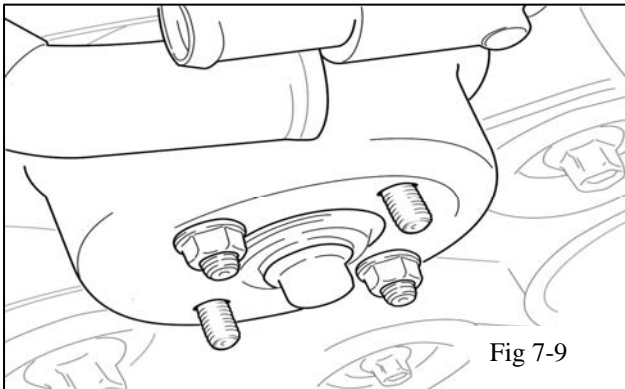

Fig 7-9
- (i) Reinstall two of the fan nuts (finger tight) so the fan pulley will not fall off (Fig 7-9).